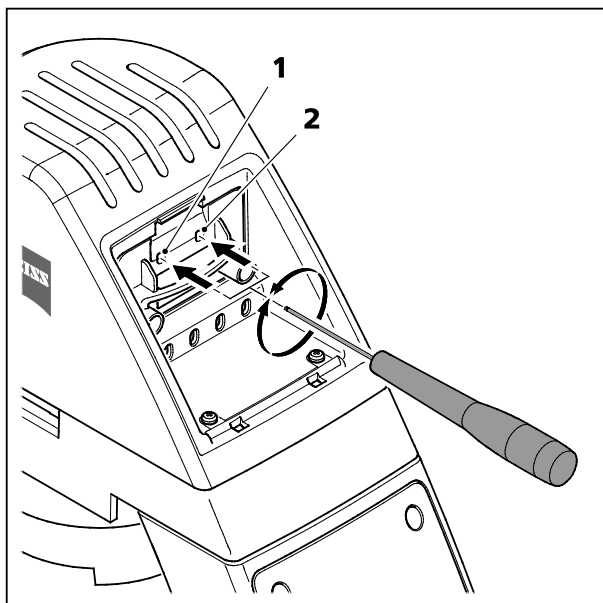

Fig. 21 **Centering the halogen bulb**
- If the illumination background is not homogeneous, center the halogen bulb by slightly rotate the both screws (Fig. 21/1 and 2) with the SW 2.5 hexagonal key.